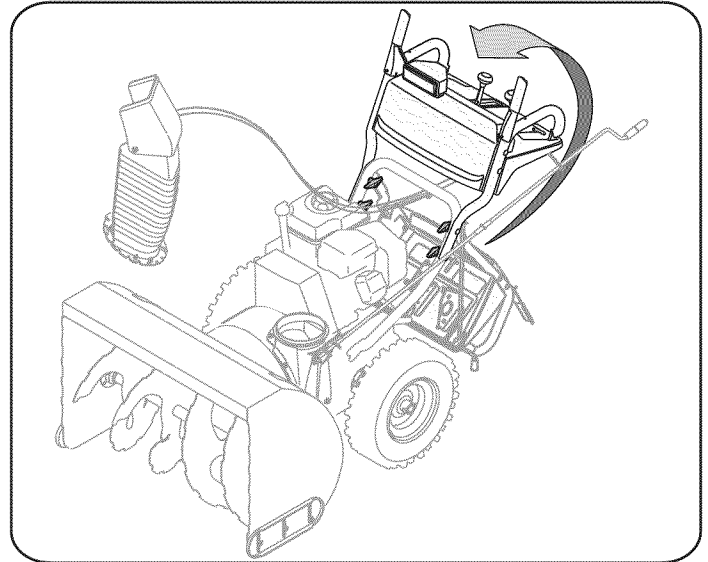

Figure 1
1. Make certain the springs at the lower end of the auger and drive cables are securely hooked into their respective actuator bracket before pivoting the handle upward. Refer to Fig. 1.
- b. Remove the lower wing knob and carriage bolt from each side of the upper handle. Pull up on upper handle as shown in Fig. 1. Align upper handle with the lower handle. Again, make certain the springs at the lower end of the auger and drive cables are securely hooked into their respective actuator bracket. Also, remove any rubber bands securing the cables to the wing nuts.